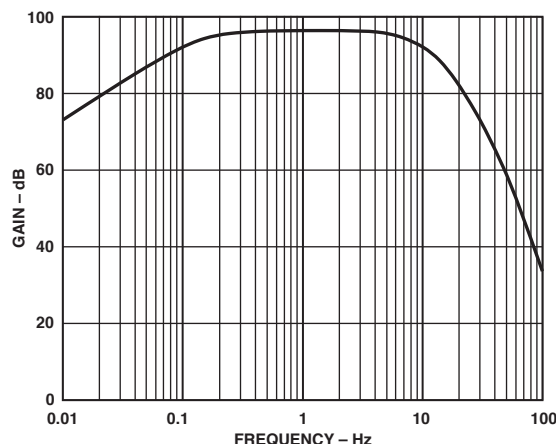

Figure 8. 0.1 Hz to 10 Hz Peak-to-Peak Voltage Noise Test Circuit Frequency Response
4. The test time to measure 0.1 Hz to 10 Hz noise should not exceed 10 seconds. As shown in the noise-tester frequency-response curve of Figure 8, the 0.1 Hz corner is defined by only one pole. The test time of 10 seconds acts as an additional pole to eliminate noise contribution from the frequency band below 0.1 Hz.